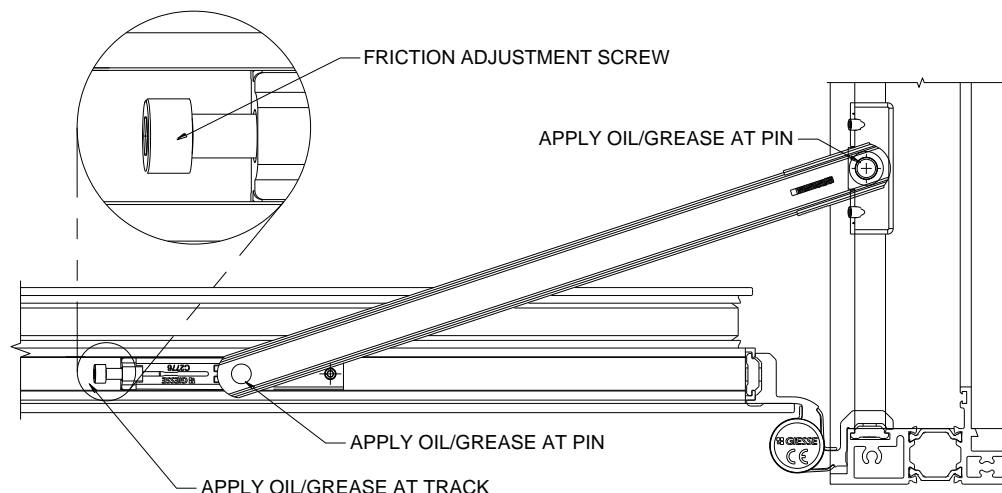

Figure 41
- Apply a light coat of oil as required on the at the arm pins and the leaf track (Figure 41), care must be taken when applying oil as it may stain other components of the door system.